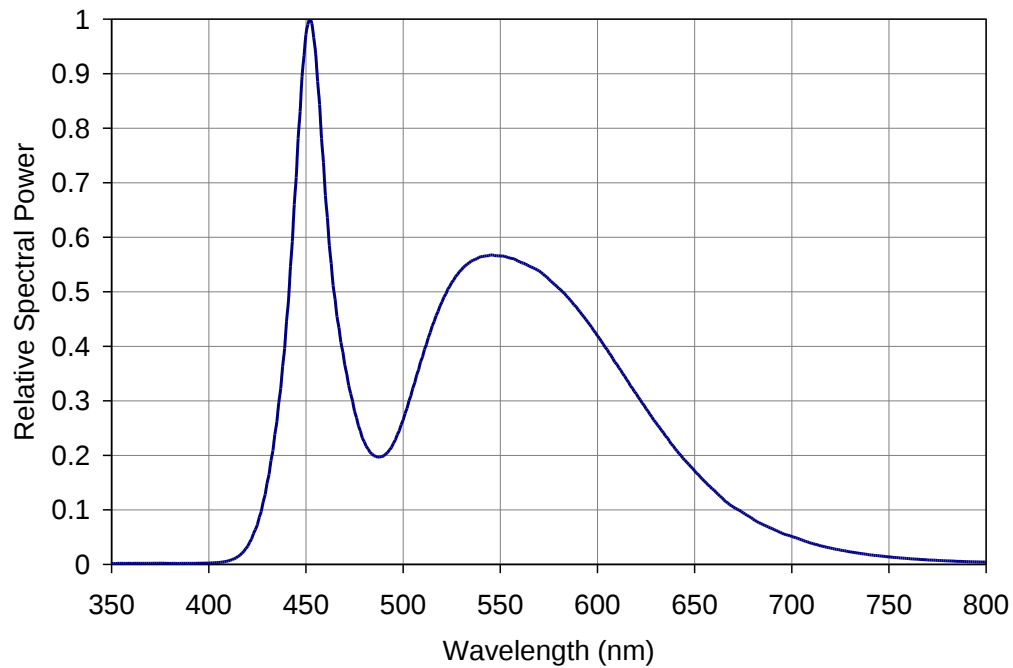

Figure 5: Typical relative spectral power vs. wavelength @  $T_C = 25^\circ\text{C}$ .
- Solder conditions per JEDEC 020D. See Reflow Soldering Profile Figure 5.